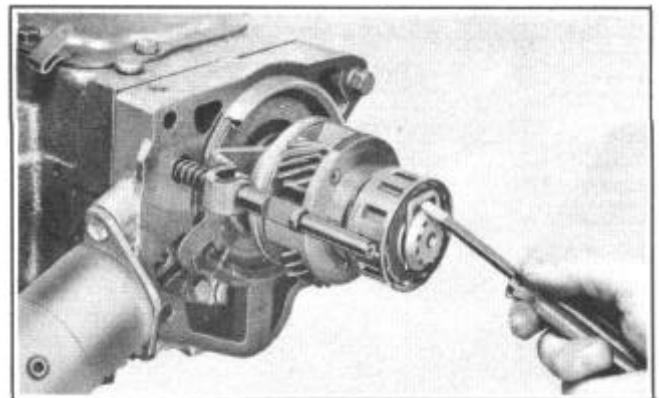

FIGURE 14
4. Remove the retaining clip at the end of the clutch cam, Figure 14, this will allow removal of the cam and the pinion cage assembly.